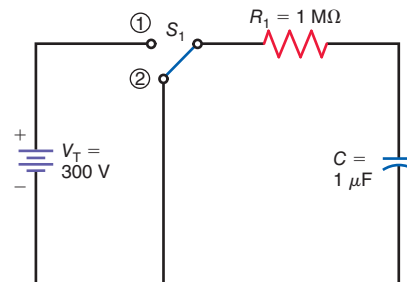

Figure 21-19
- 21.23** What is the time constant of the circuit in Fig. 21-19?
- 21.24** Assume that C in Fig. 21-19 is completely discharged with S_1 in position 2. If S_1 is moved to position 1, how much is the capacitor voltage at the following time intervals?
- 21.25** Assume that C in Fig. 21-19 is fully charged with S_1 in position 1. If S_1 is moved to position 2, how much is the resistor voltage at the following time intervals?